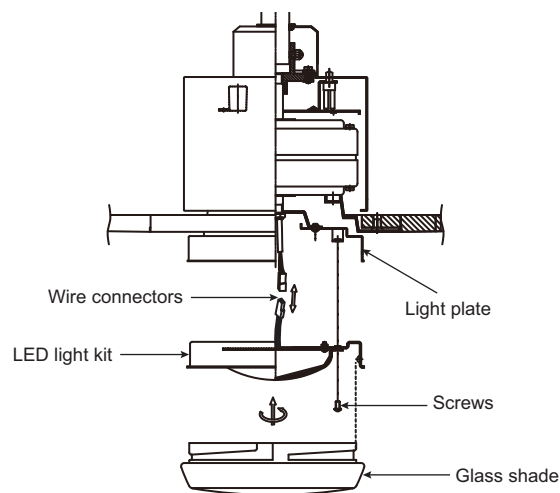

Fig. 18
Step 1. Loosen the three mounting screws on the inside of the LED light kit. (Fig.18)
Step 2. While holding the LED light kit under the fan motor, make the wire connections: (Fig. 18)
Step 3. Tuck the connections neatly into the light plate. Place the key holes on the LED light kit over the 2 screws previously loosened from the light plate, turn the LED light kit until it locks in place at the narrow section of the key holes. Secure by tightening all three screws. (Fig.18)
Step 4. Raise the glass shade against the light kit and turn clockwise until snug, DO NOT OVERTIGHTEN. (Fig. 18)